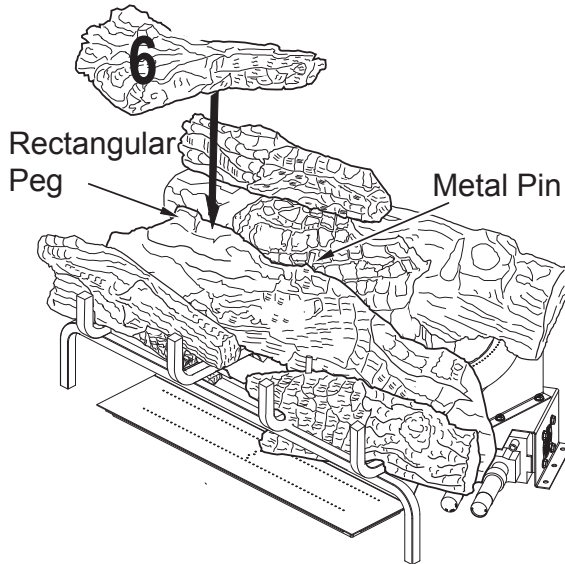

Figure 43 - Installing Log #6
6. Place the left top forked log (#6) on the top of the middle log (#2). Match the rectangular projection on top of the middle log (#2) with the rectangular hole on the bottom of the left top forked log (#6). Match the metal pin on the top of the middle log (#2) with the round hold in the bottom of the left top forked log (#6). See **Figure 43, Page 22**.